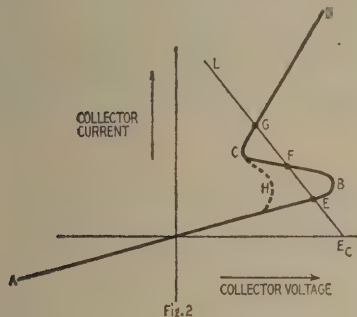

Fig. 2
P1 and P2 adjust the emitter and collector voltages. The output characteristic of the point-contact transistor is shown in Fig. 2. The lowest portion AB shows positive resistance. At higher currents there is a kink in the curve indicated by BC. This portion has negative resistance. Thereafter, the resistance goes positive again (CD). The peak B varies with emitter bias. A more positive emitter reduces the peak, for example from B to H.